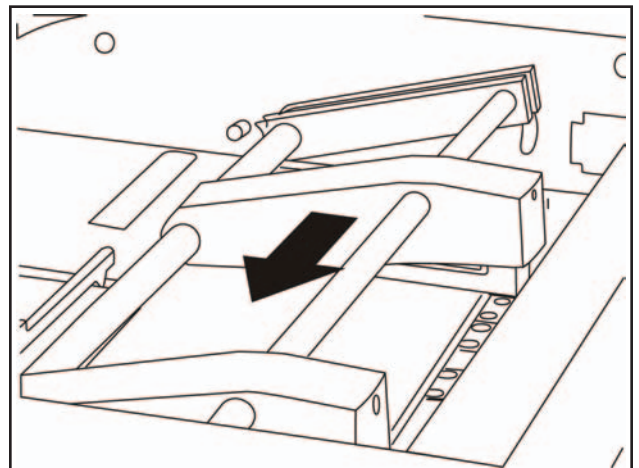

Fig. 5
3. Open top cover. Move the stapler heads to the correct position (fig. 5) by following the stapler head position sticker. Close top cover.